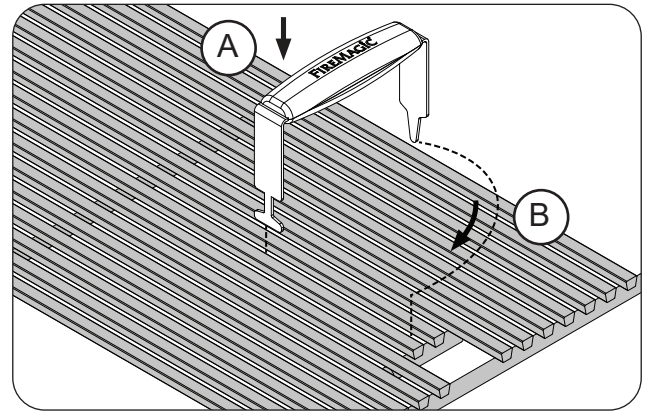

Fig. 33-1 Install cooking grids
1. With the prongs facing downward, insert the notched-end of the lifter between two grid rods, then rotate, as shown in Fig. 33-1, A & B.
2. Insert the rear pointed-end of the lifter between the same two rods (Fig. 33-1, B) and carefully lift the cooking grid and place onto the front and rear grid rests of the grill (see Fig. 33-2). Repeat for all other cooking grids.